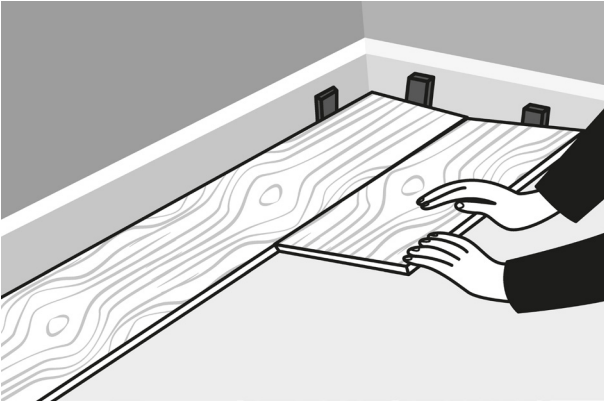

Figure 2.7
**Refer Figure 2.7.**
7. If at any time during your installation you feel the planks are going offline or opening, use the strap clamps to hold them while the glue dries. **Refer Figure 2.7.**